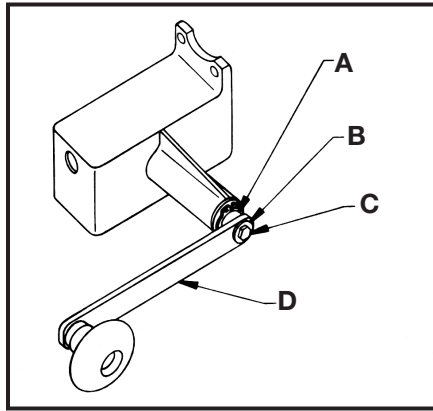

Fig. 2
Place crank handle (D) to crank shaft (A) (See Fig. 2) with wooden knob facing outward and “D” hole in handle aligned with flat on shaft. Place bolt (C) through washer (B) and thread into shaft (A). Tighten securely.